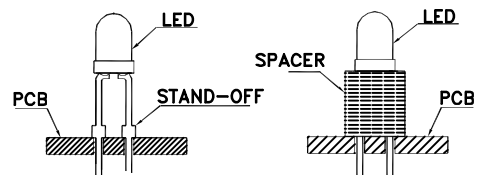

Fig. 3
3. Use stand-offs (Fig. 3) or spacers (Fig. 4) to securely position the LED above the PCB.